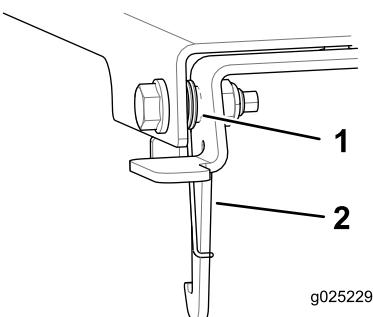

Figure 4
3. Move the long end of the spring around the back of the latch (Figure 4).